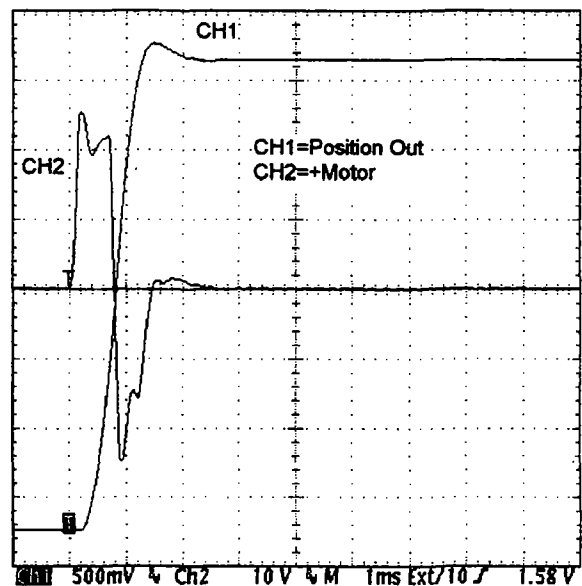

Figure 16.
6. As needed, adjust the Slew Rate Limiter Adjustment trimpot, R78, CW to slow the maximum slew rate of this large angle square wave as needed to keep the +Motor voltage from “squaring off” or saturating at the top of the first peak. Figure 16 shows this squaring off phenomenon. Slowing down the input signal will increase the large-angle step response time. However, the best settling performance will be achieved when the output amplifier is not allowed to saturate. To ensure the output amplifier will not saturate even after the scanner reaches its maximum operating temperature, use the following formula for setting the maximum voltage on +Motor during the step: